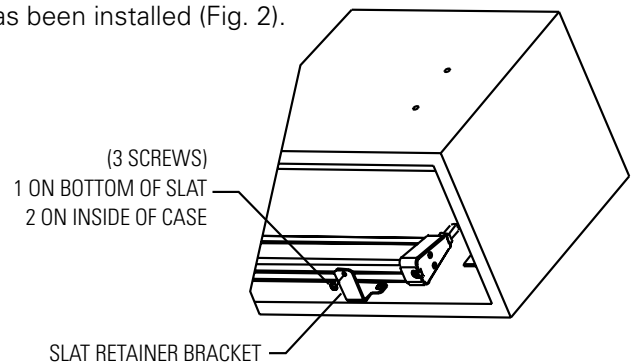

FIGURE 2
4. Remove the retainer screws from the slat bar before the case has been installed (Fig. 2).